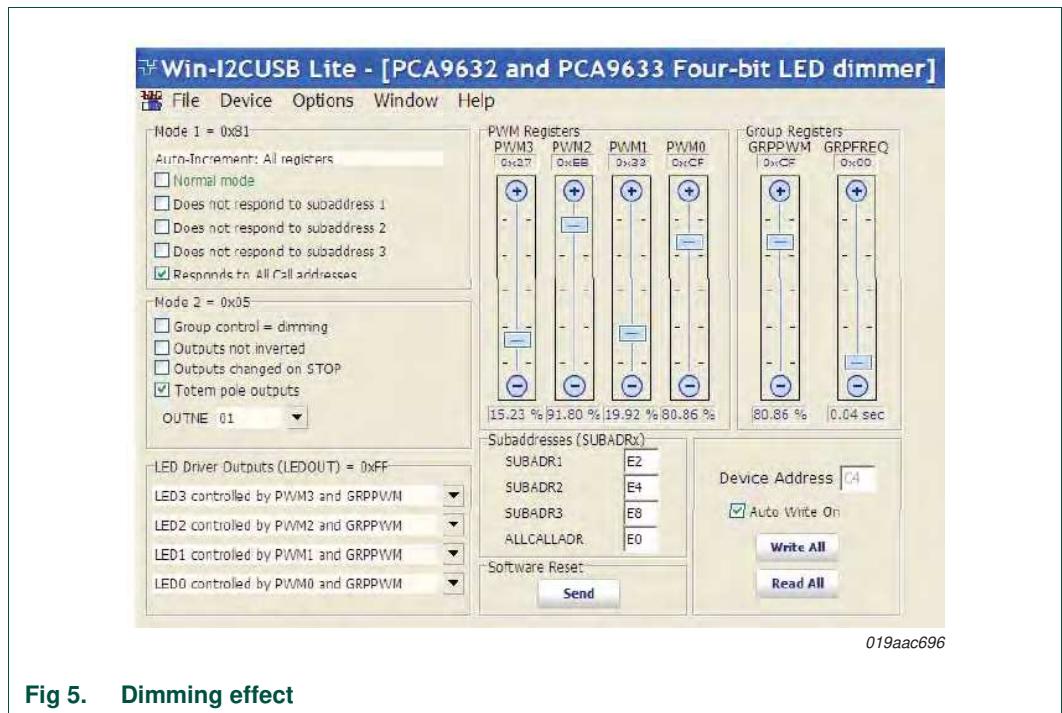

Fig 5. Dimming effect
9. Once you set a color with the PWM values, move the GRPPWM bar in Group Registers and observe the dimming effect (Figure 5).